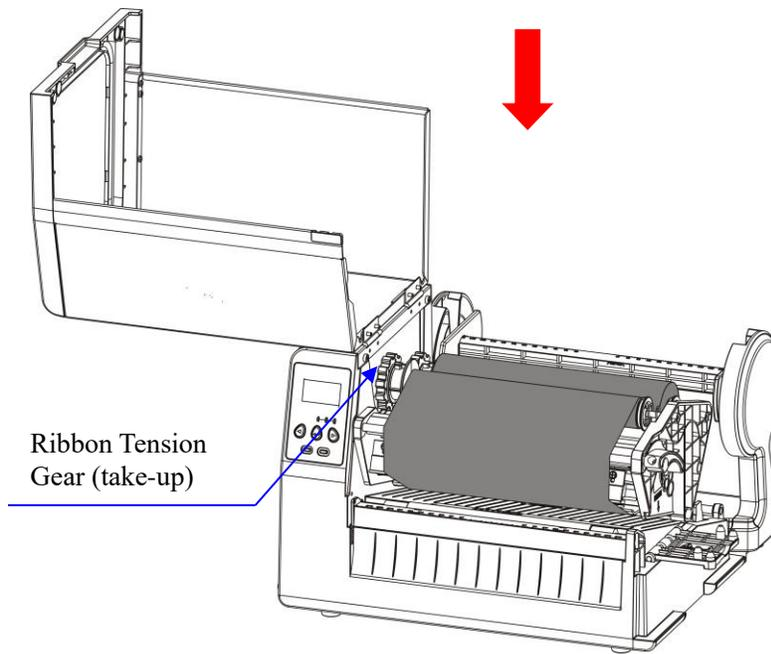

Figure 2-11
6. Wrap the leading edge of the ribbon around the ribbon take-up hub a few laps, and load the ribbon take-up hub onto the ribbon take-up. Turn the left ribbon mount take up clock-wise to tighten and smoothen the ribbon (see Figure 2-11).